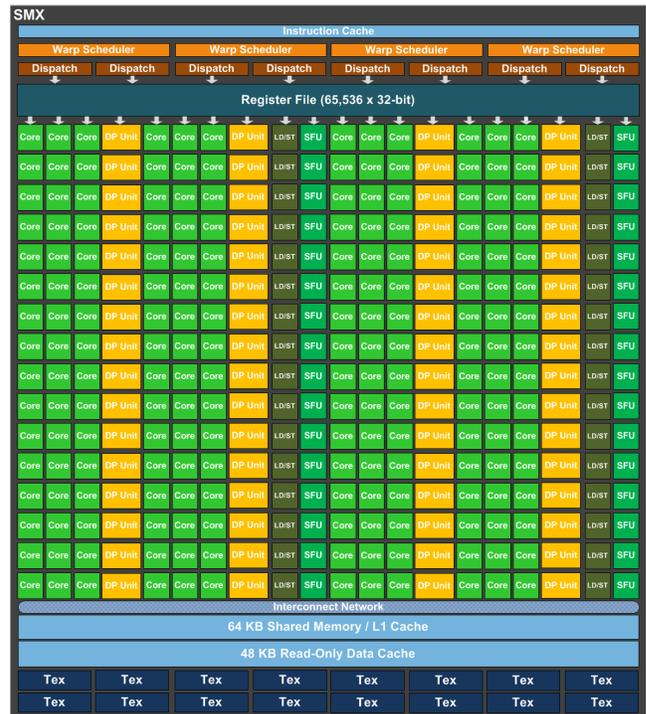

Figure 1: Architecture of the GK110 (Kepler) streaming multiprocessor. Image courtesy of NVIDIA.
Modern many-core GPUs consist of a several *streaming multiprocessors* (SM) that operate on large sets of streaming data. Each multiprocessor contains a number of *streaming processors* (SP). To perform the actual computation, individual SPs are equipped with several arithmetic (ALU), and floating point (FPU) units. The streaming multiprocessor is further provided with several load, store, and special function units, which are used for loading and storing data, and transcendental functions (e.g. sine, cosine, etc.) respectively. In order to execute the code, each SM uses an instruction cache, from which the warp scheduler and dispatch units fetch instructions and match them with GPU threads to be executed on the SM. Data can be stored either in registers, or in one of the very fast on-chip memories, depending on the access and privacy restrictions. As the capacity of the on-chip memory is highly limited, contemporary GPUs have gigabytes of device memory. We will provide some more detail about different storage options in Section 2.2. Figure 1 illustrates the architecture of a single streaming multiprocessor.